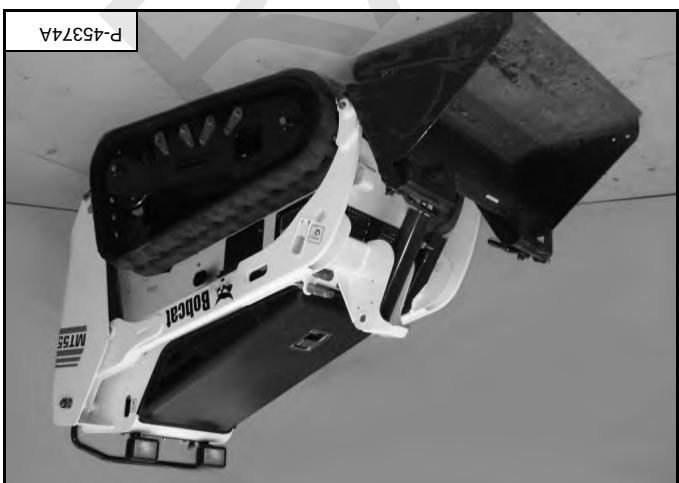

Figure 167
- Stop the mini loader on level ground [Figure 167].